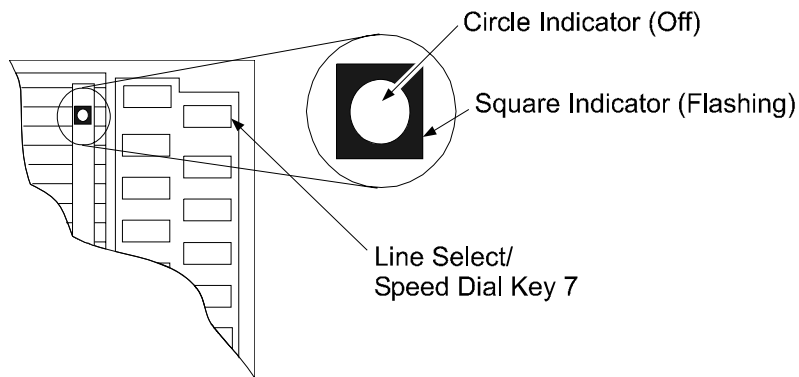

Figure 7. SUPERSET LCD Line Indicator
An application uses the **d42_indicators()** function to retrieve the current data for the LCD Line indicators for a given channel on a Dialogic® D/42D-SX Board. The data placed in the application buffer is shown below. If the data for byte 7 is 0x02, the circle segment corresponding to the Line Select/Speed Dial key 7 is off and the square segment is flashing at 250 ms. - see Figure 7. Refer to the *Dialogic® D/42 Series Software API Library Reference* for more information about using the **d42_indicators()** function.